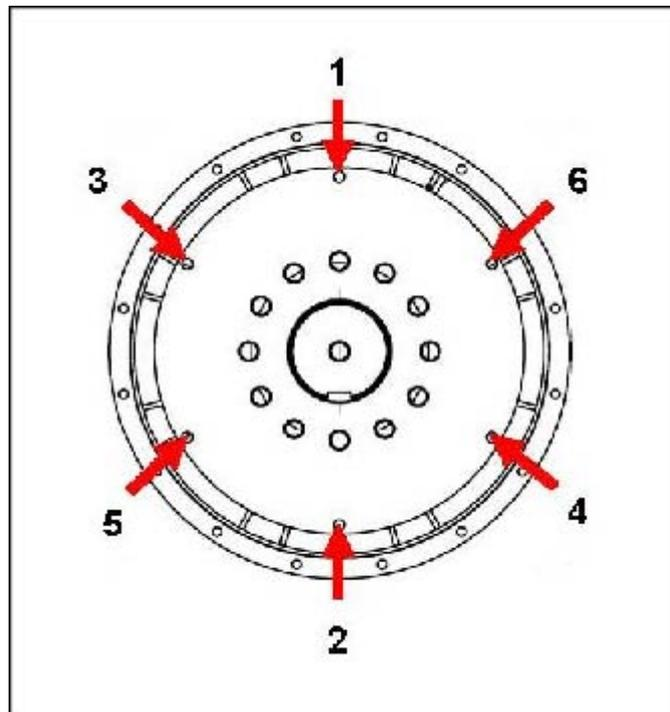

FIGURE 18. FIXING SEQUENCE TO FLYWHEEL
10. Tighten the bolts to fix the coupling disc to the flywheel, in the sequence shown in Figure 18 on page 31